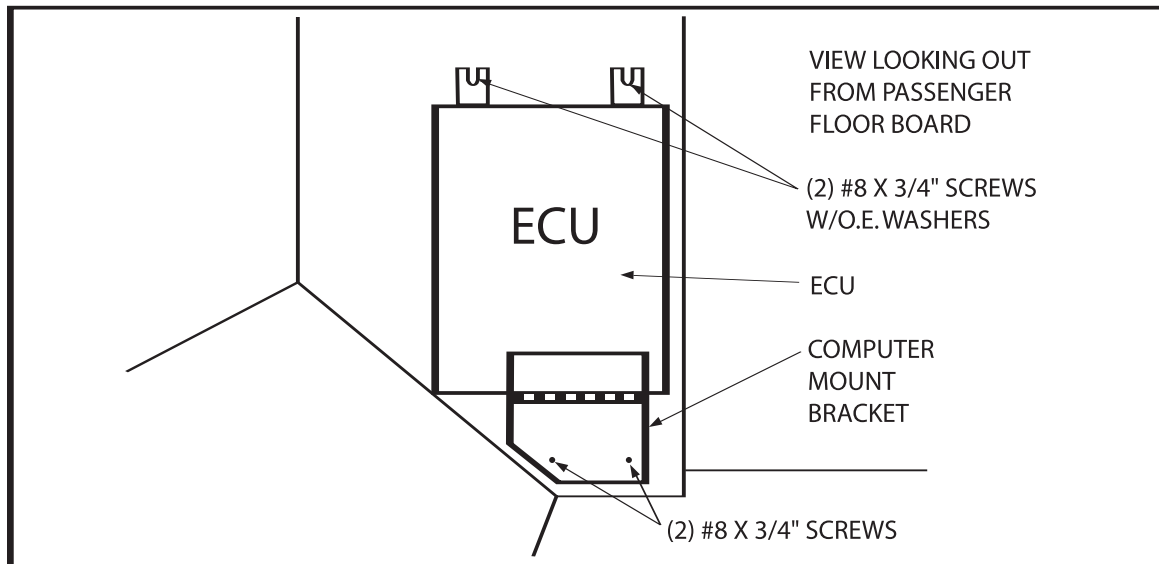

FIGURE 5
5. Re-install computer on the right outer kick panel fashioning suitable metal bracket as shown in the illustration. Mount bracket using two (2) #8 x 3/4" sheet metal screws. (See Figure 5 Below)